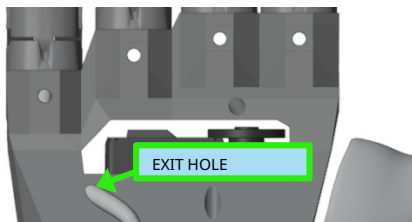
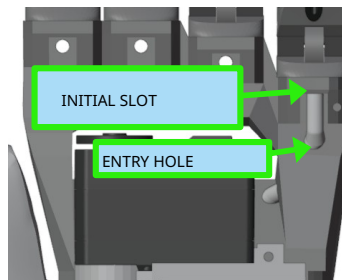

Figure 5.37 Tube insertion into the tendon exit hole (rear view)
Figure 5.36 Insertion into the initial slot (front view)
1. Insert the PTFE tube into the exit hole (on the back of the skeleton) of the flexion tendon (figure 5.37), pass it through the passage tunnel and make it come out from the entry hole on the front of the skeleton and insert it into the initial slot (figure 5.36).